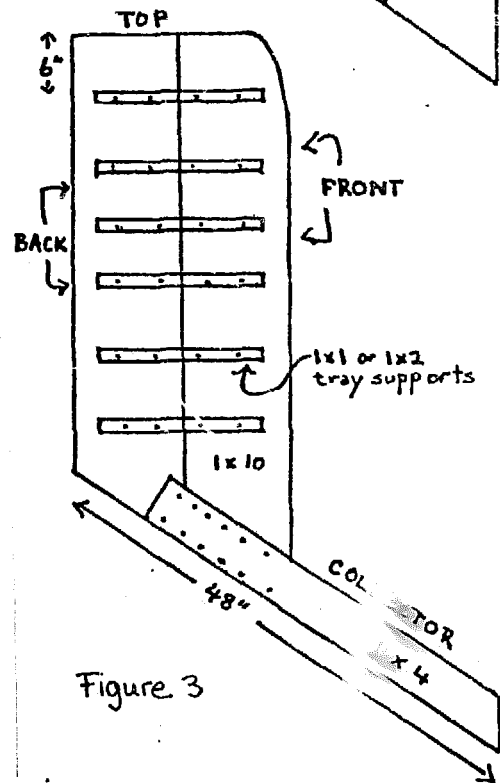

Figure 3
- 2 :SIDES OF COLLECTOR: Mark off 40" on the 1 x 4, mark off 60 degrees so the short edge is 40" long. Cut. Duplicate this piece by using it as a template on the remaining 1 x 4 piece. (See "B", Figure 3). Nail the 1 x 4's to the 1 x 10's as shown, so that the bottom (long edge) of the 1 x 4 is flush with the angle cut of the 1 x 10's and makes 48" from the tip of the 1 x 4 to the edge of the 1 x 10. Note: the 1 x 4 is nailed on what will be the "inside" of the dryer, so when the second 1 x 4 is nailed to the second set of 1 x 10's the resulting configuration will be a mirror image of the first.